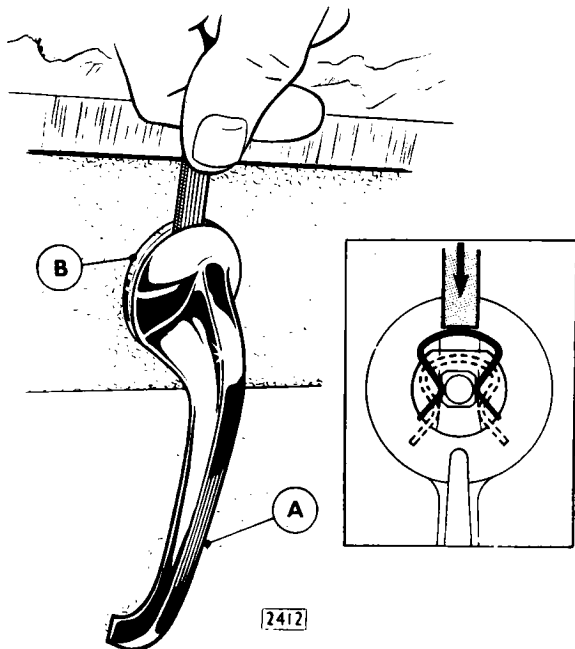

Fig. 29. An alternative method of removing the regulator handle.
As an alternative method for releasing the spring clip insert a flat strip of steel about $\frac{1}{16}$ " (1.6 mm.) thick between the handle (A) and the inner ring (B) as illustrated in Fig.29.